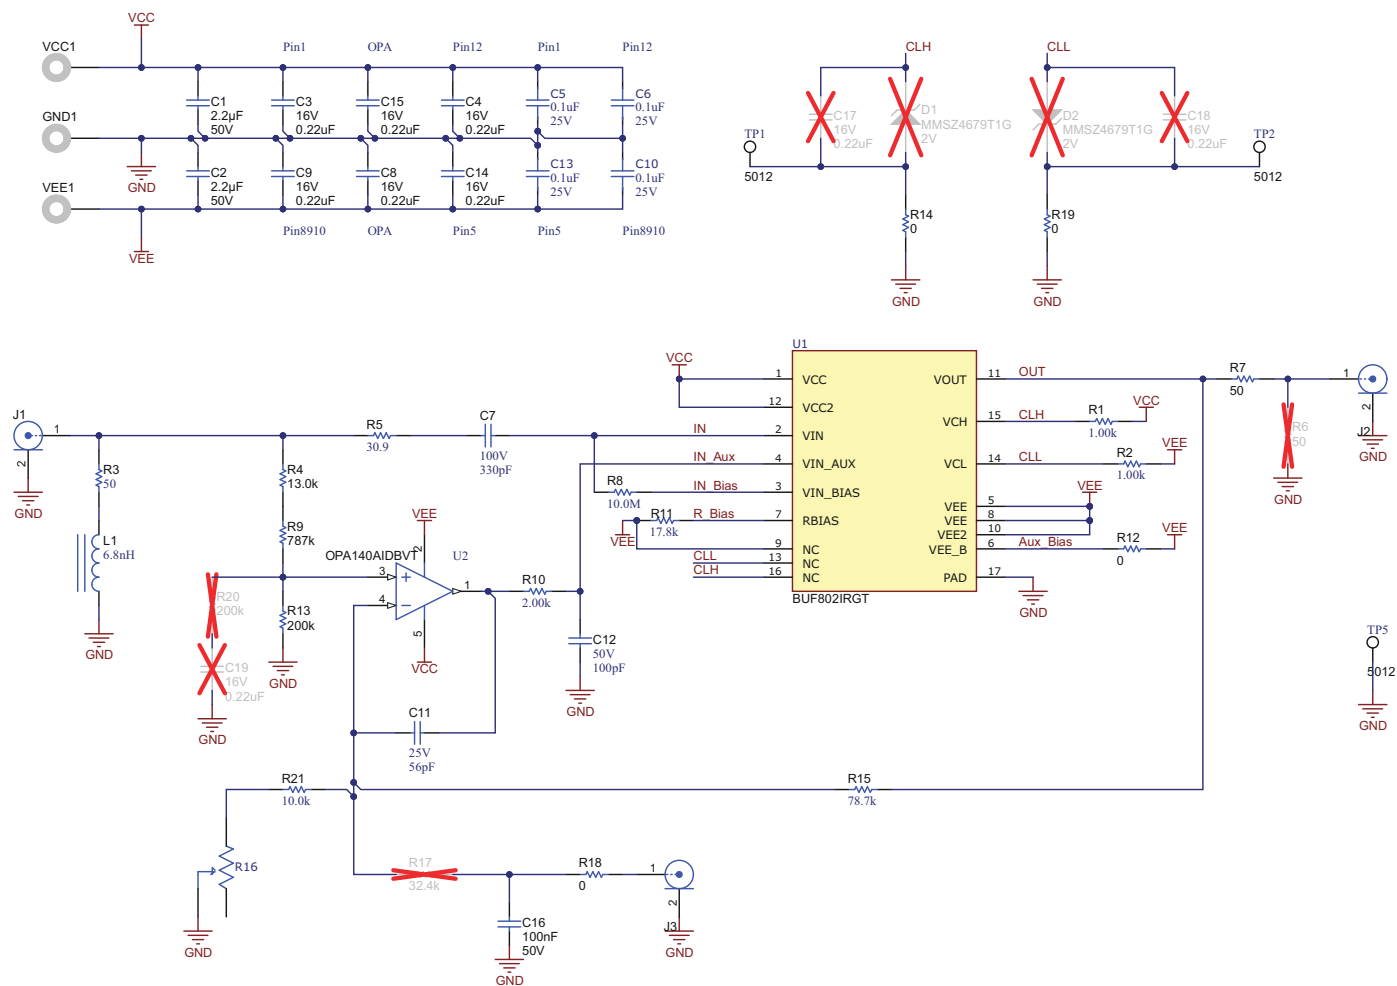

Figure 11-1. Layout Example: Schematic for Layout Reference
- **Peaking in the S21 transfer function:** keeping the trace length minimum is of prime importance to ensure no peaking occurs in the S21 transfer function of the BUF802. The trace inductance can form a resonant circuit with the input capacitance of the BUF802, causing peaking in the S21 response. Add a small resistor ( $R_5$  in Figure 11-1) in series with the DC blocking capacitor to dampen the LC resonance created by the trace inductance and the input capacitance of the BUF802. Choose series capacitors ( $C_7$  in Figure 11-1) with low equivalent series inductance (ESL) to minimize total inductance.
- **Power-supply bypass capacitors:** mount the power-supply bypass capacitors as close to the supply pins as possible and on the same side of the PCB as the BUF802. As shown in Figure 11-1, choose low-inductance LICC capacitors ( $C_5$ ,  $C_6$ ,  $C_{13}$ , and  $C_{10}$ ) to minimize high frequency impedance between the BUF802 and the bypass capacitors. Use multiple vias between the bypass capacitor and GND to reduce series inductance. As shown in Figure 11-1, also use multiple vias to GND on the  $50 \Omega$  input termination resistor ( $R_3$ ). Connect the bypass and termination vias to a solid GND plane.